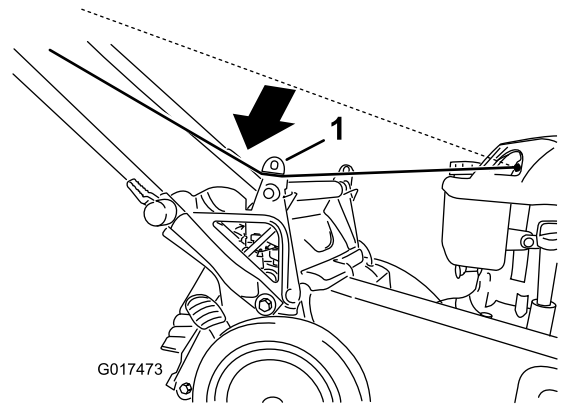

Figure 27
1. Route the starter rope around the lower-rope guide (Figure 27).